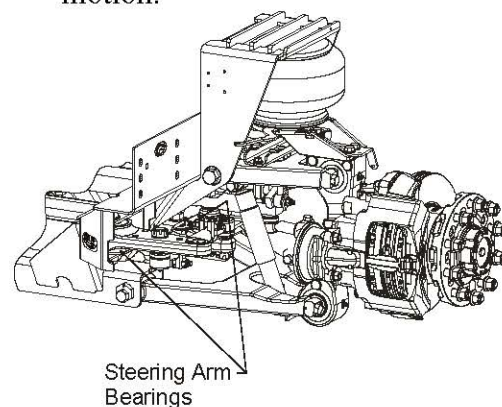

Figure 9 – Steering Arm Assemblies
2. Start vehicle engine. Oscillate the steering wheel and observe the motion of the steering arms (Figure 9). The steering arms should not exhibit any noticeable conical motion about their pivot axes.